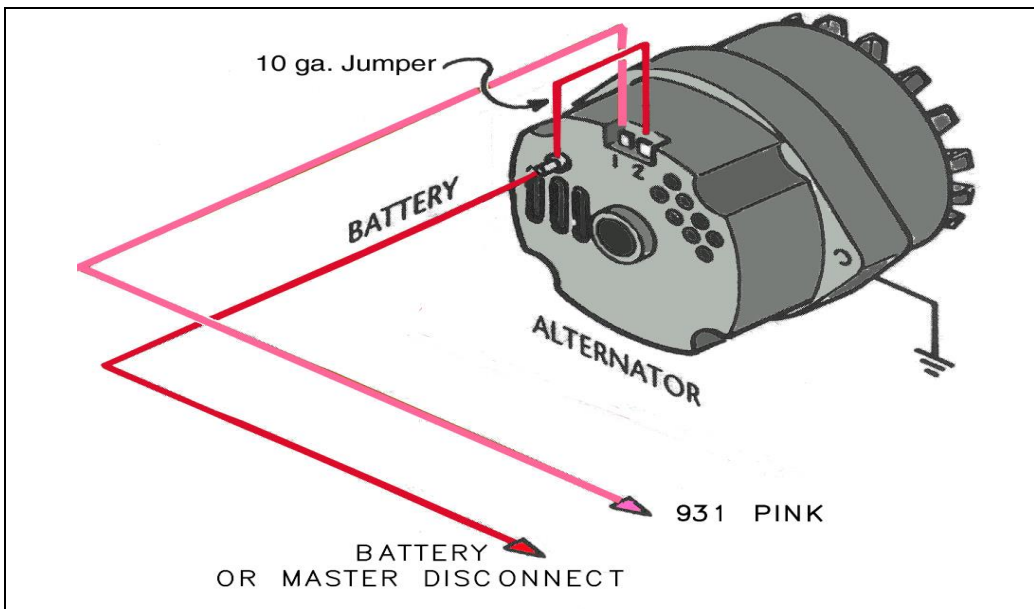

Figure 6.2 Late GM alternator with internal regulator
6.2 Late GM Alternator (after 1972) Internal Regulator. See Figure 6.2.